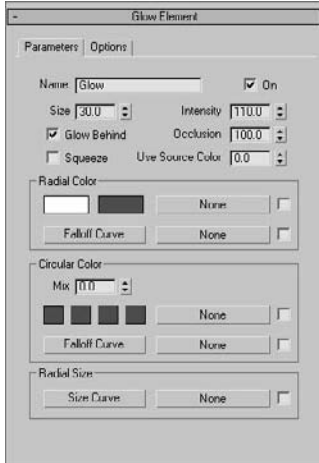

Figure 11.33
**Parameters** This tab is where you set the size and color of the glow, as shown in Figure 11.33.